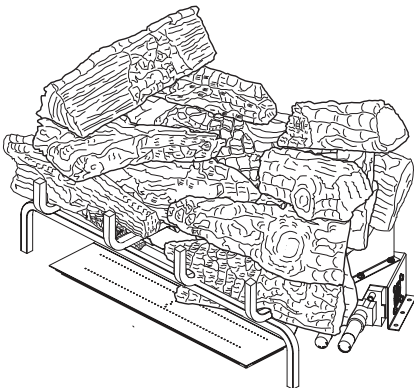

Figure 48 - Final Assembly
- Final Assembly is shown in Figure 48, page 20.